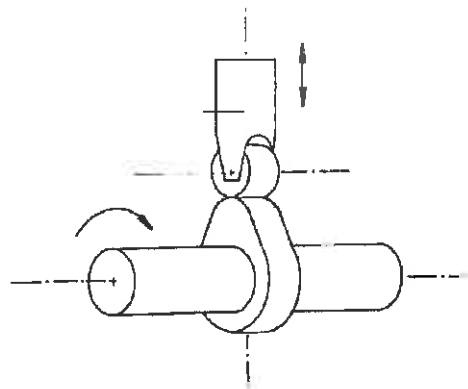

Figure 5
- 3.3 Identify the mechanism in Figure 5 and explain its function by referring to an application. (4)